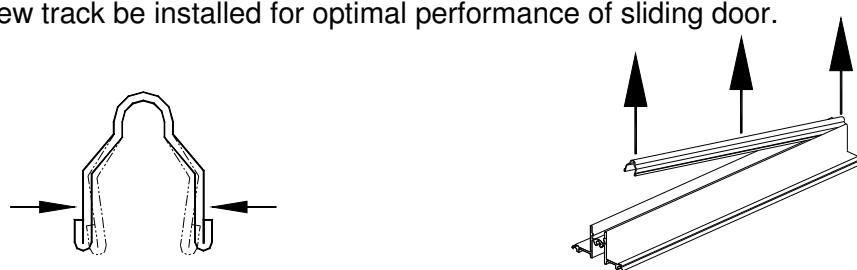

Figure 10:
1. Using a pair of pliers, slightly squeeze the track together at one end and pull up (Figure 10).